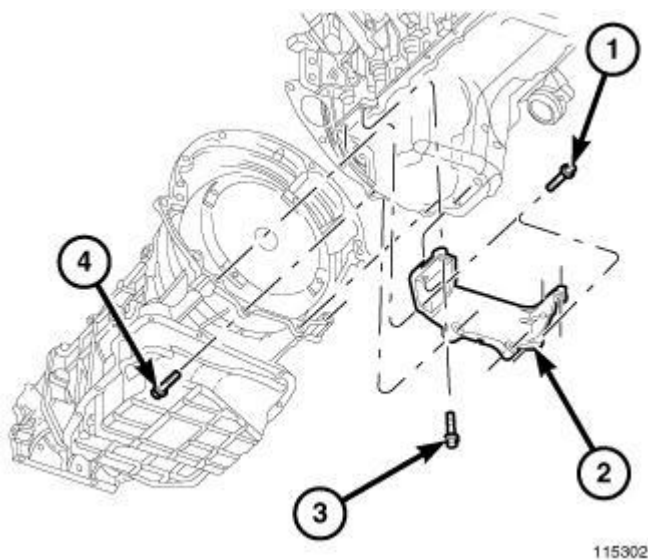

Fig. 16: Structural Cover
11. Install the structural cover. Refer to **Fig. 16**.